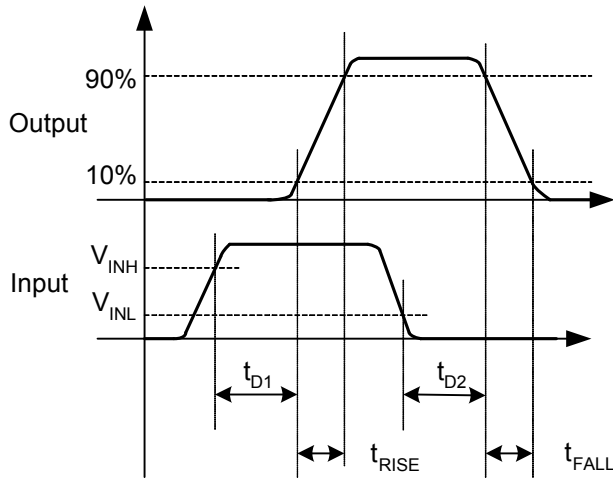
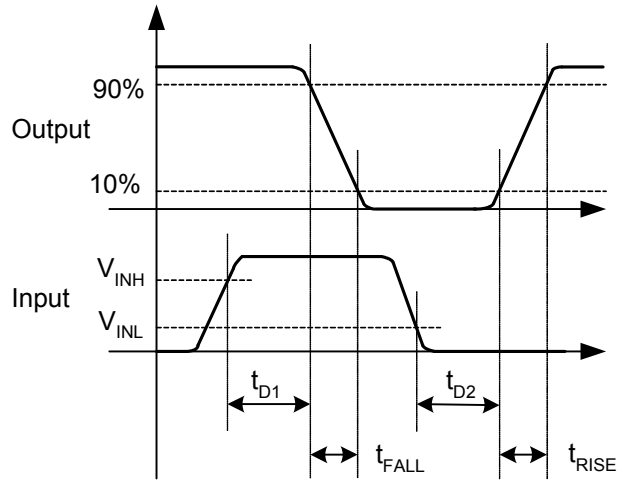

Figure 9. Non-Inverting (EN HIGH or Floating)
Figure 10. Inverting (EN HIGH or Floating)
- 12. See Timing Diagrams of Figure 9 and Figure 10.